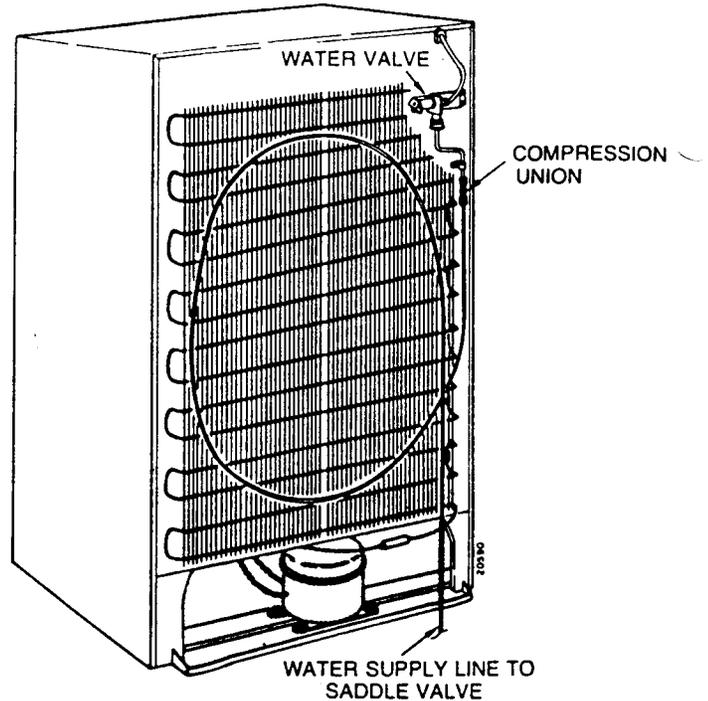

Figure 18 Supply line connection to water valve (note loop of tubing necessary for cabinet movement)
9. Route the tubing through the floor or wall to the refrigerator location. Form the excess tubing into a large coil as shown in figure 18. This will allow movement of the refrigerator without having to disconnect the tubing. If, after forming the coil, you still have an abundance of tubing left over, you can form another coil or cut off the extra tubing.